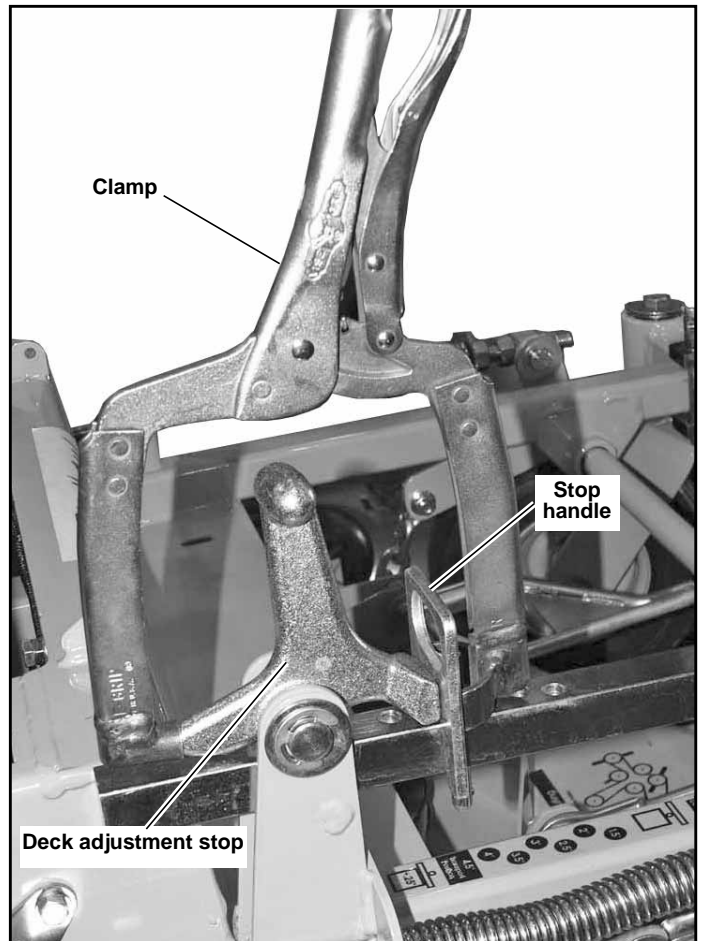

Figure 6-2
4. Clamp the height stop against the stop handle. Figure 6-2